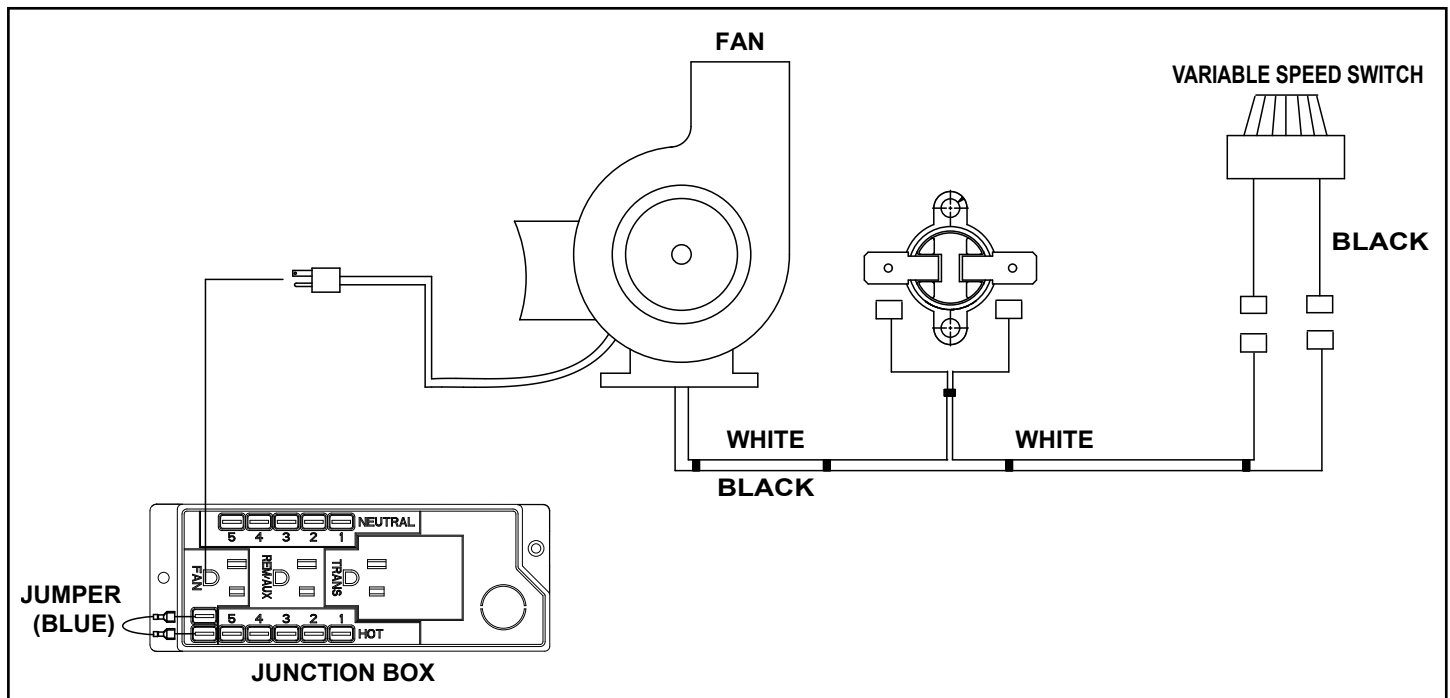

Figure 8.9 Fan Wiring Diagram
- Install the speed control (rheostat). The speed control mounts to the right rear corner of the component tray. Insert the stem of the speed control through the hole located on the right side of the cover. Secure with the pal nut using an 11/16 in. (17.5 mm) wrench See Figure 8.8. Attach the black and white wires routed under the appliance indicated in Figure 8.9 (wiring diagram), to the variable speed switch wires. Use the blue jumper wire provided in the appliance component bag to make the connection on junction box terminals as shown in Figure 8.9. Push the speed control knob onto the stem. Secure any extra wire up and out of the way using the zip tie provided.
- Plug the fan into the receptacle labeled "FAN" on the junction box. See Figure 8.9. The blower will not run until the appliance has heated up enough to activate the snap disc. This can take up to 15 minutes depending on the temperature of the room. Likewise, the blower will not automatically turn off until the appliance has cooled off enough to turn off the snap disc.